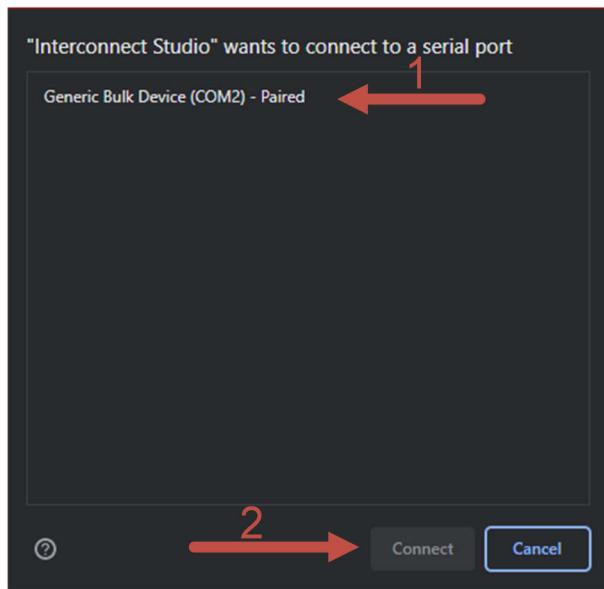

Figure 4-9. Configure Popup
Figure 4-9 - Clicking the Configure button opens a popup to connect the machine to a programmer. This list is filtered to only support TI Programmers and does not support custom boards. (1) Click the desired programmer if multiple are connected. This choice is remembered for the next configure as well. (2) Click connect and the communication starts.